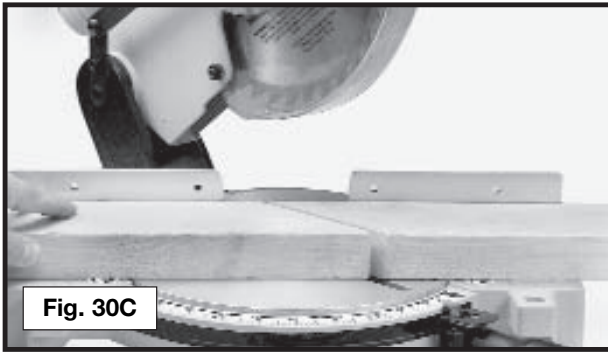

Fig. 30C
2. A standard 2 x 6 can be cut in the 90° straight cut-off position in one pass (Fig. 30B) or at 45° right or left miter angles (Fig. 30C).